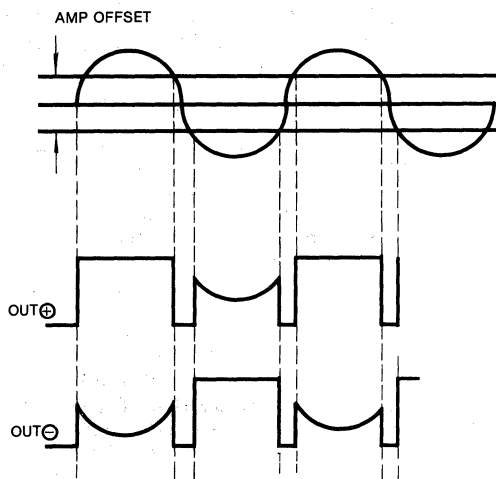

Fig. 7
3. Practical output waveform is illustrated in Fig. 7. While output is switching from positive to negative, the status becomes OPEN (This is due to the existence of the amplifier offset). During this period, since the impedance at the IC side becomes high, output current is determined by external parameters. In general, the load is inductive and a capacitor is connected to the external port to prevent backlash voltage generation.